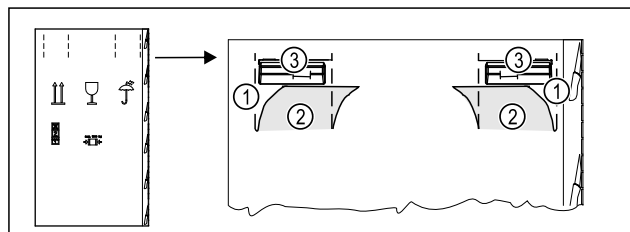

Fig. 3
- Press the packaging cardboard into the perforation Fig. 3 (1) at the top.
- Pull out any tabs Fig. 3 (2) that have been pushed in.
- Carrying handle Fig. 3 (3) visible on the right and left.
- Hold the appliance by the carrying handles Fig. 3 (3).